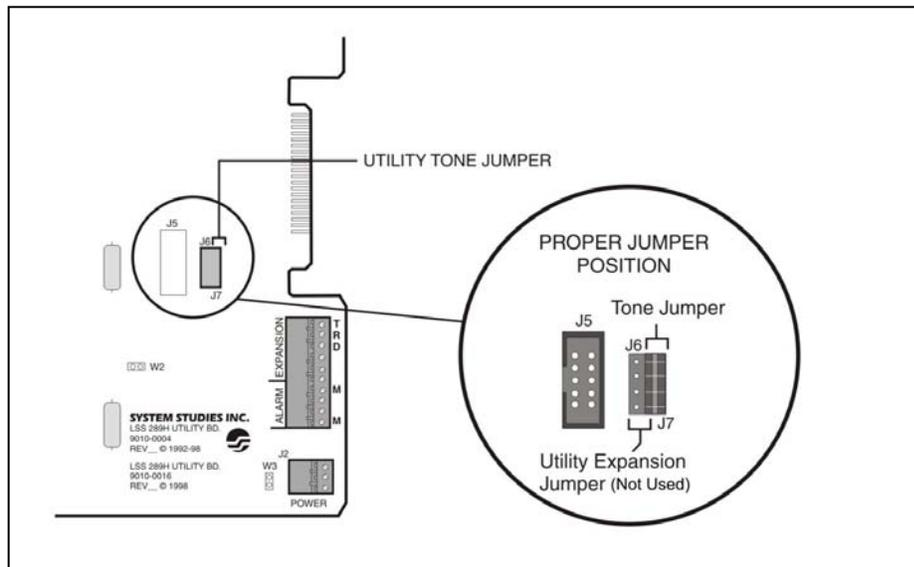

FIGURE 3-3: TONE JUMPER SETTING FOR UTILITY CARD POWER SWITCH
- If using a Tone Utility Card, check to make sure that the tone jumper is set correctly. Locate the Utility Tone Jumper (J6/J7), to the left of the backplane connector as viewed from the back of the chassis. Make sure that the jumper is in the J7 position (default setting), shown in FIGURE 3-3.